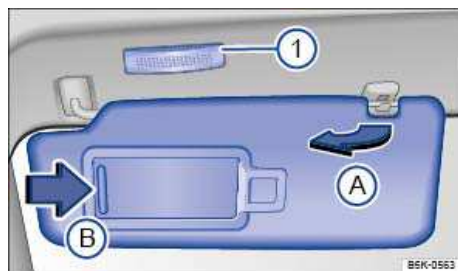

Fig. 77 In the headliner: Sun visor.
- Lift it out of the retaining clip ⇒ fig. 77 \(A\) and swivel it over toward the door.